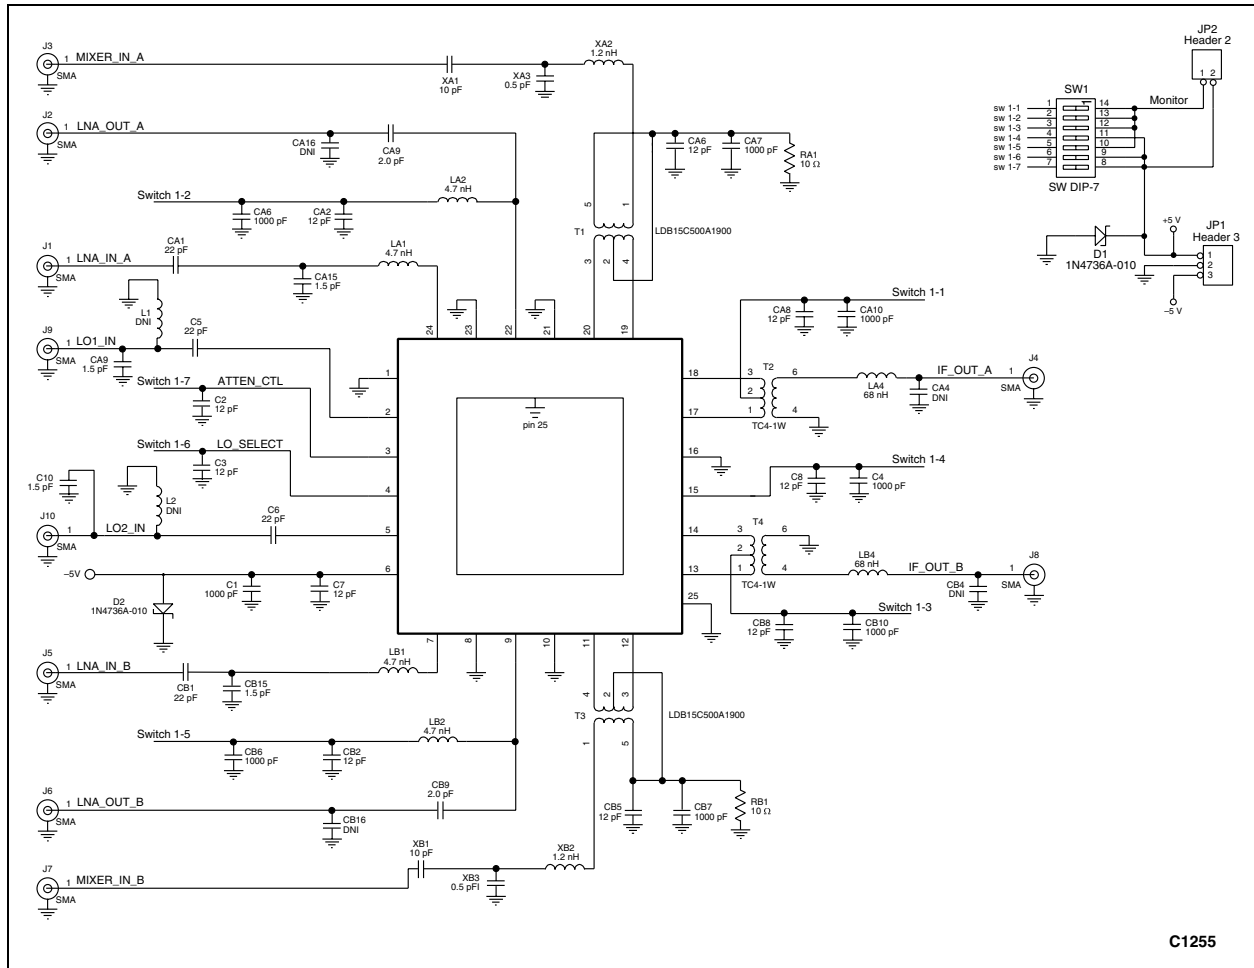
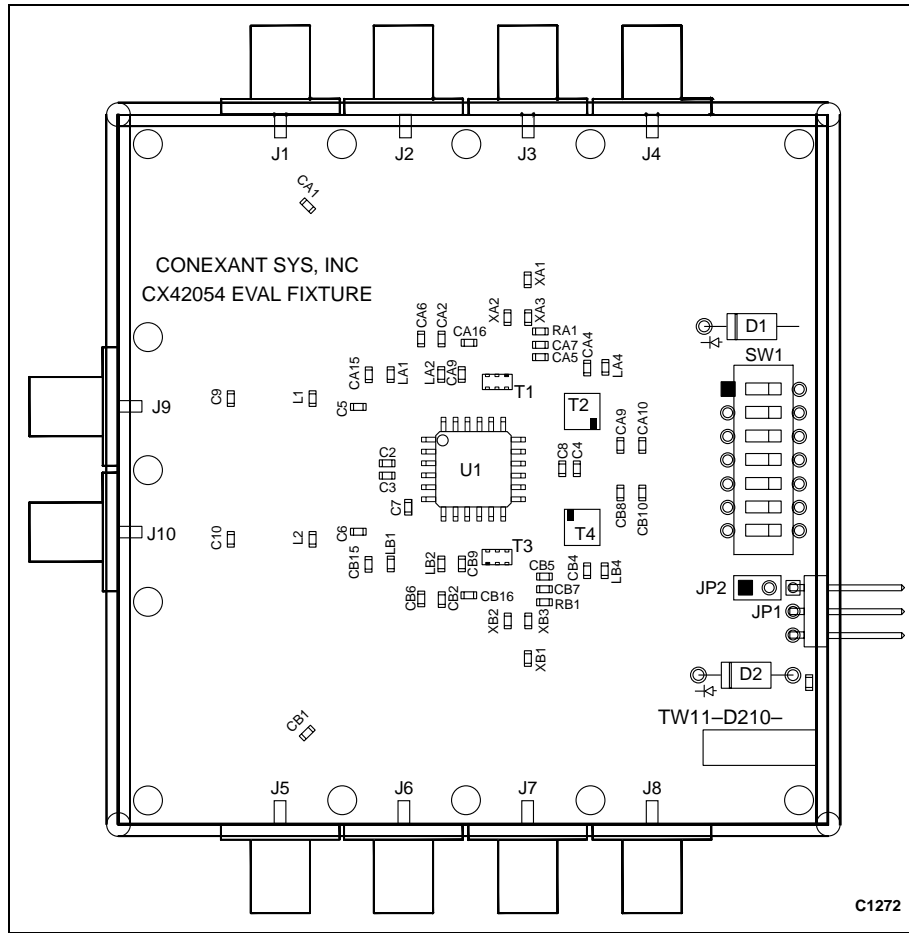

Figure 10. CX42054 Application Schematic
Figure 11. CX42054 Evaluation Board Layout
Note 1: In a 50 Ω system obtained with external matching components on input/output ports. See Figure 10 and Table 6 for matching network configuration and element values.
Note 1: In a 50 Ω system obtained with external matching network on LNA and mixer input ports. See Figure 10 and Table 6 for network elements and frequency ranges.
The CX42054 Evaluation Board is used to test the CX42054 mixer and LNA performance. The CX42054 Evaluation Board schematic diagram is shown in Figure 10. Table 6 contains I/O matching network components used in the schematic. The schematic shows the basic design of the Evaluation Board for the RF range of 1800 to 2000 MHz. The IF matching circuitry has been optimized for 100 to 200 MHz. Figure 11 displays the Evaluation Board layout.
3. The inclusion of external bypass capacitors on the VSS and VDD voltage inputs of the LNAs and mixers is recommended. The application schematic in Figure 10, shows these capacitors (1000 pF and 12 pF) in shunt with each control switch, as well as the VSS supply. The 1000 pF capacitor serves as a low frequency bypass, while the 12 pF capacitor prevents any RF signals from coupling on to the DC supply voltages. It is recommended that the bypass capacitors be placed as close as possible to the CX42054 for best results.
Note 1: Standard Evaluation Kit TW10-D212 is optimized for the 1800 to 2000 MHz frequency range. The schematic diagram shown in Figure 10 applies to Evaluation Kit TW10-D212.